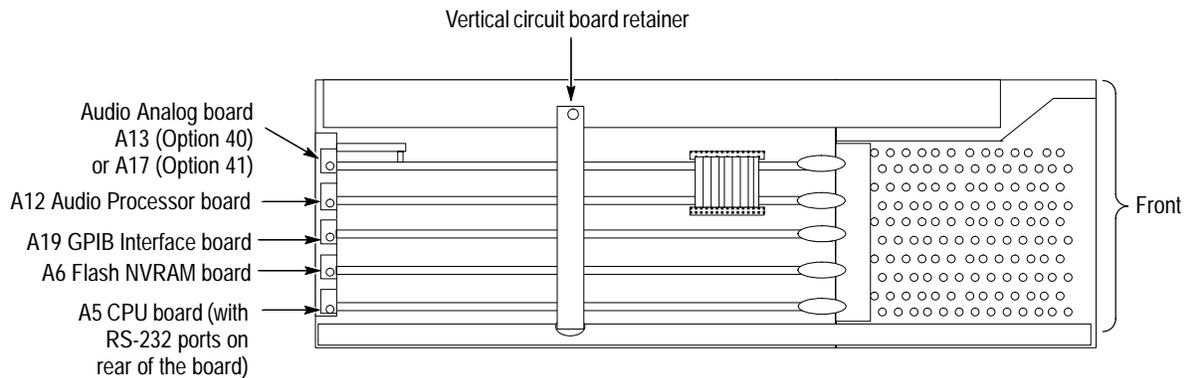

Figure 3: Locating the circuit boards in the left-side card cage
3. Remove the screw from the vertical circuit board retainer and remove the retainer. See Figure 3.
5. If you have hardware options 40 or 41 (audio), or option 48 (GPIB) installed in your trade-in measurement set, remove the retaining screws and pull the circuit boards for those options from the card cage. See Figure 3.
8. Remove the screw from the vertical circuit board retainer and remove the retainer. See Figure 3.
9. Install any circuit boards removed in step 5 from the trade-in measurement set into the same slots in the new VM700T. See Figure 3.